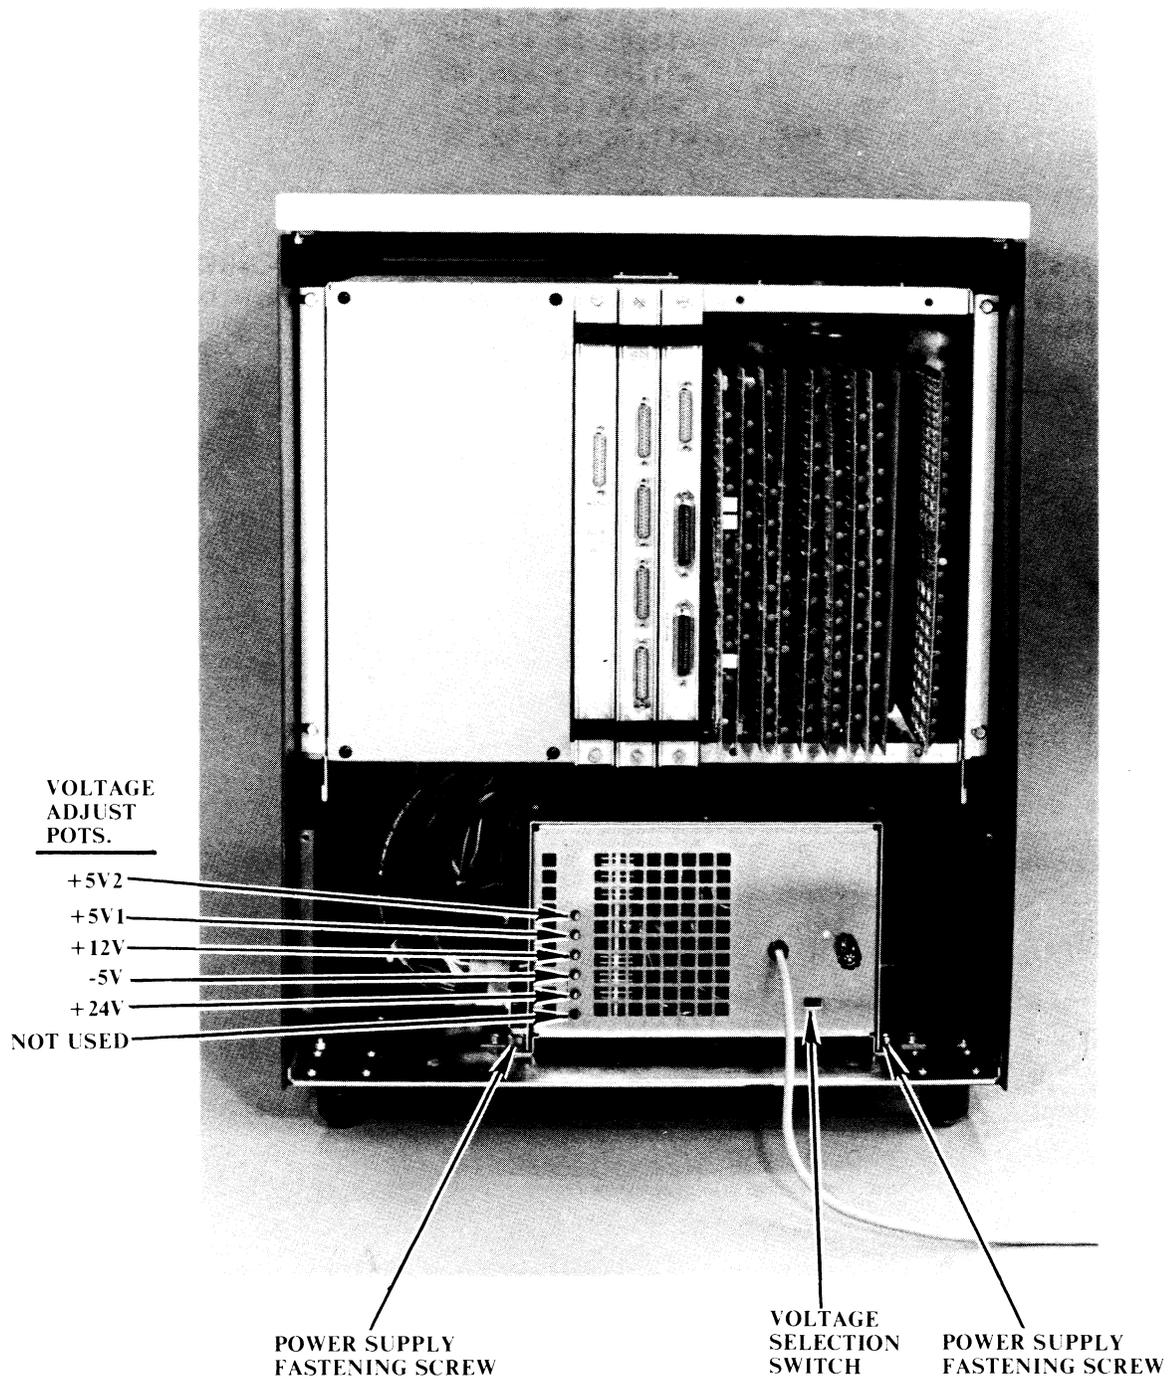

FIGURE 11-1 POWER SUPPLY REGULATOR ADJUSTMENT POTENTIOMETERS
There are two models of the 2200LVP power supply--one for 50 hertz applications and one for 60 hertz applications. The ac input voltage for both power supplies is switch selectable. The 115/230 input voltage selection switch is located on the rear of the power supply assemblies (ref: FIGURE 11-1). Be certain that the switch is positioned correctly for the supplied ac voltage.
4. Check the dc voltages with a digital voltmeter for the values listed in TABLE 11-1. (The test points for monitoring the voltages are shown in FIGURE 8-16. The test points are accessible from the circuit side of the motherboard. To check +24V, monitor J5 pin 1 of both the diskette and fixed-disk drives (ref: FIGURE 8-19). The yellow wires in the CPU motherboard-to-disk drive dc power harness connect to those pins.) Adjust the trimpots where indicated in FIGURE 11-1 to obtain correct voltage levels where necessary.
5. Remove the two screws (ref: FIGURE 11-1) from the rear sides of the power supply and pull the power supply (from the rear) out of the cabinet.